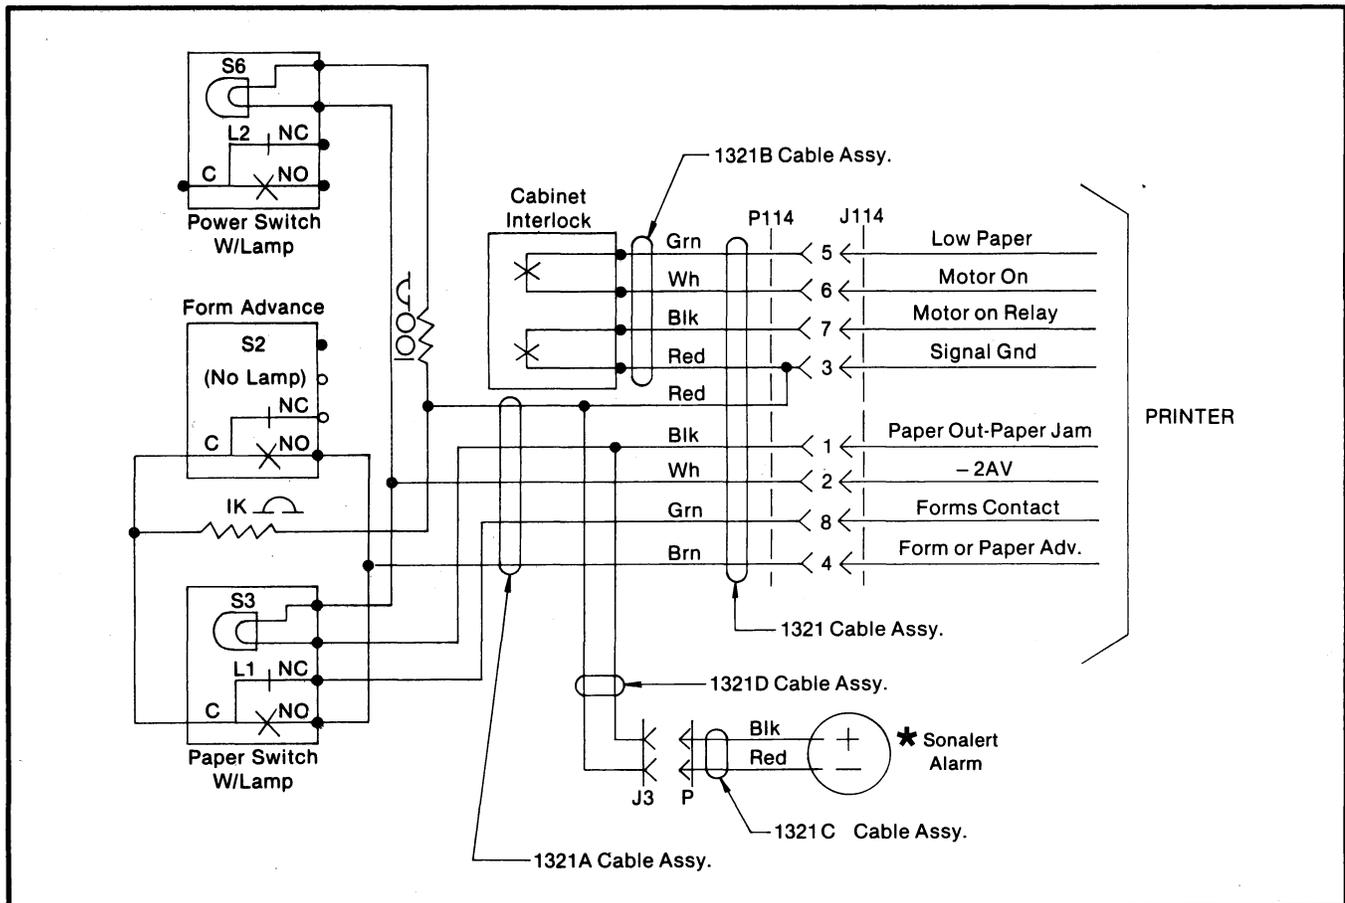

**Fig. 11**
**3.09** "OPTIONAL" Paper-Receiving Basket (VS 1700-00-PRB) may be ordered. Two holes are provided in the rear of the cabinet for installation. (Fig. 11)